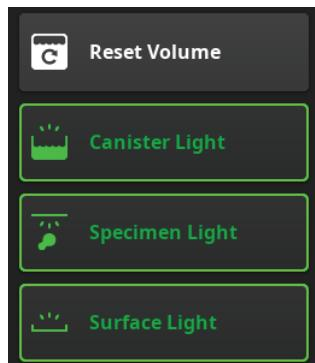

Figure 28 – Turn on Lights
1. To illuminate the specimen collection tray where the specimen will be collected, touch the SPECIMEN LIGHT button on the main control panel display.(Figure 28).